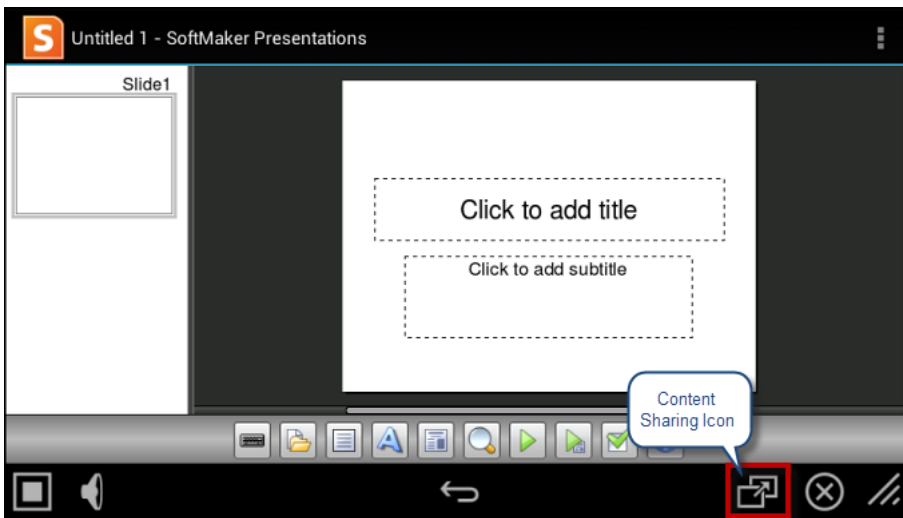

FIG. 148 Presentation Application - Content Sharing icon
- Other applications display the Content Sharing icon in the G5 Menu Bar at the bottom of the window, as shown in FIG. 148: